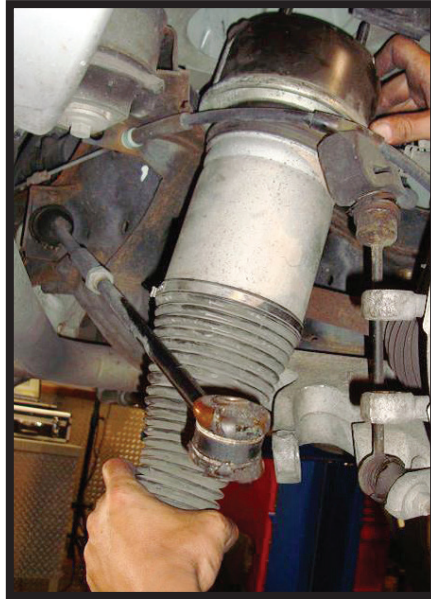

FIGURE 19
8. REMOVE AIR STRUT. (FIGURE 19)